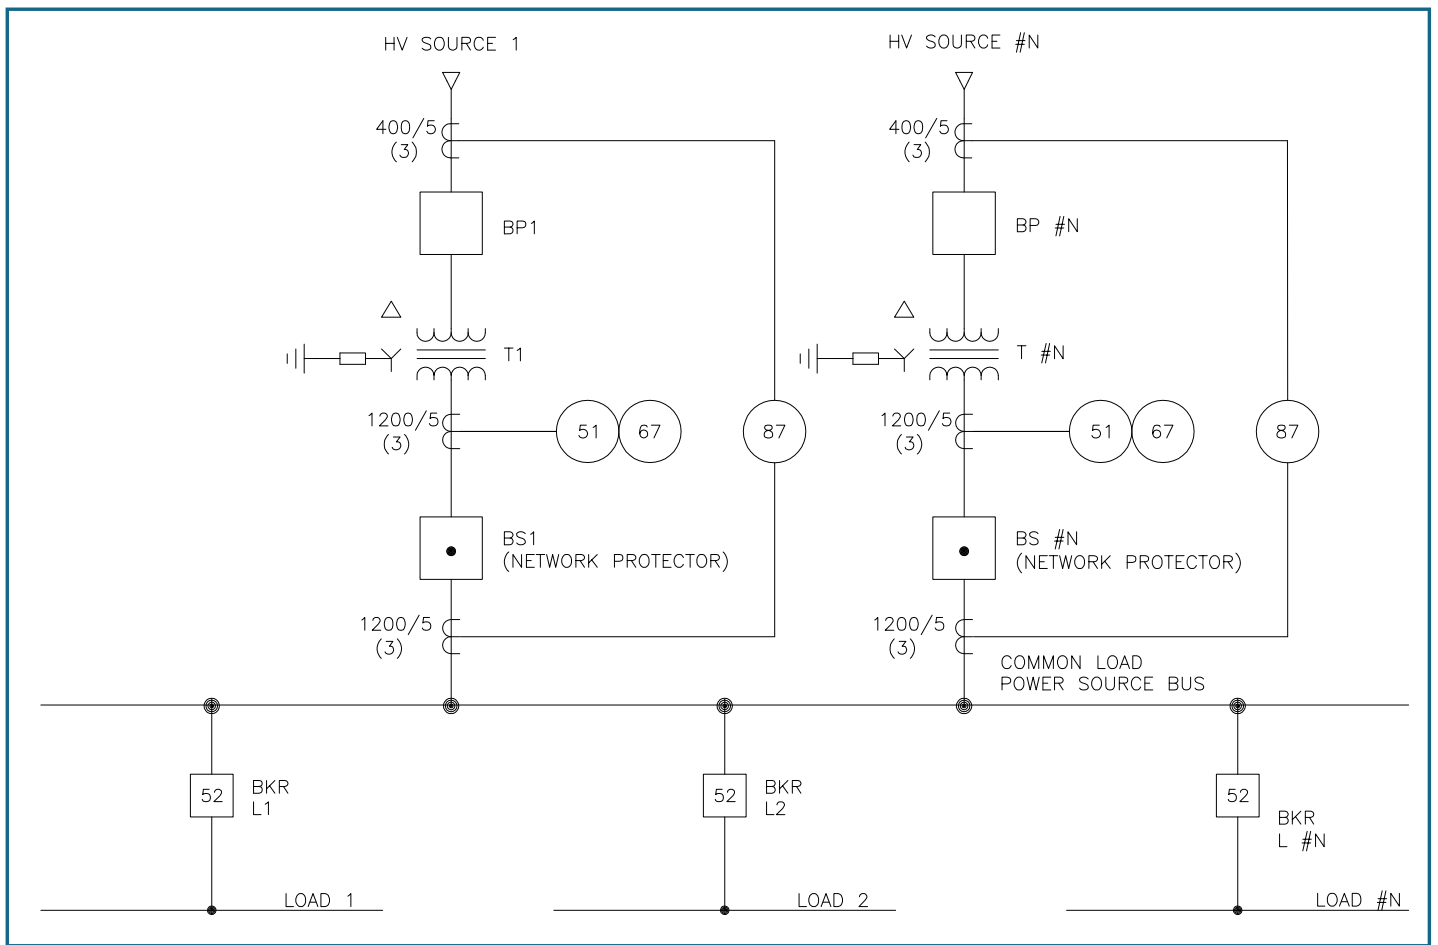

Figure 1. Typical MV spot network template
The advantage of a medium-voltage (MV) spot network with multiple parallel power sources is the opportunity to provide enhanced continuity of service to loads compared to traditional power distribution system designs. With an individual power source serving a load sized for the power source, the loss of the power source results in the shutdown of the load. However, with paralleled loads and sources in an MV spot network, the loss of an individual power source does not interrupt power to the loads if isolation of the faulted source is successful. A typical MV 2-spot network is shown in Figure 1.